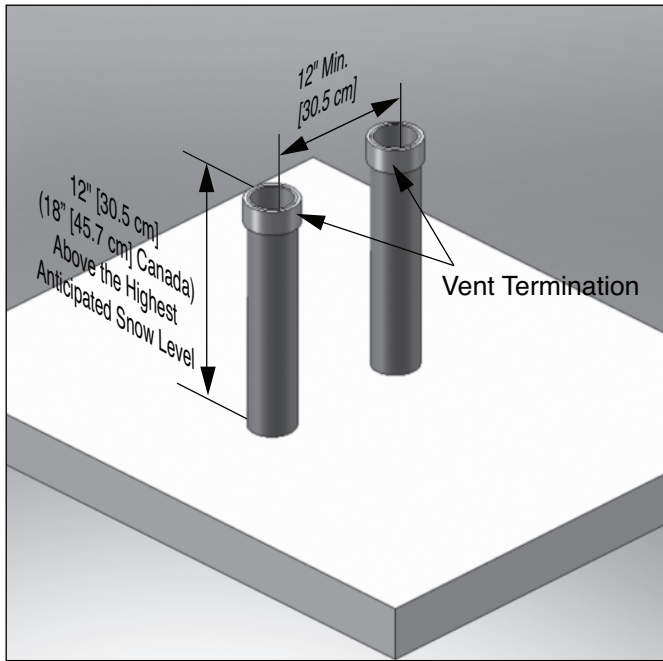

Fig. 16: Category IV- Vertical Vent Termination of Multiple Boilers
2. Each vent termination must be a minimum 12" [30.5 cm] from the adjacent termination for installations in the U.S. as shown in Fig. 16. For installations in Canada, provide clearances as required by CAN/CSA B149.1.